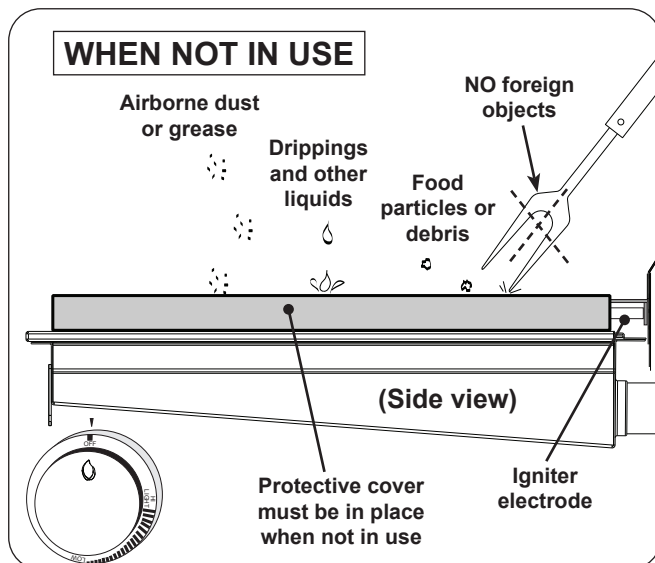

Fig. 6-2 Infrared burner - WHEN NOT IN USE
- When not in use, **always** cover the infrared burner with the stainless-steel cover. This protects the burner from drippings (from other cooking), water, airborne particles, and foreign objects (Fig. 6-2).
- Do not strike or scrape the ceramic portion of the burner as it may chip, crack, or break (Fig. 6-2).